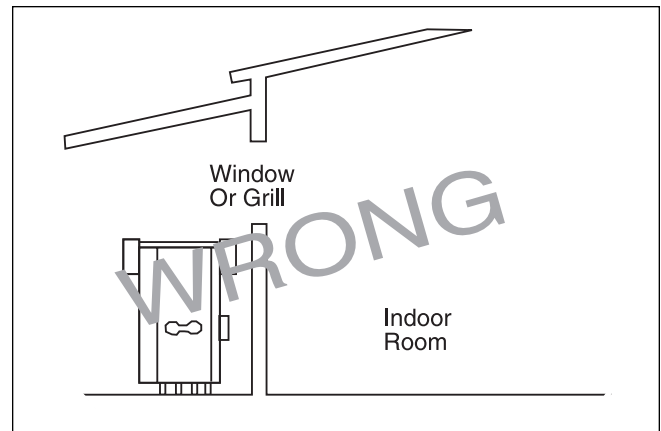

Figure 7 - Incorrect Outdoor Installation
- Never install the heater under any kind of roof overhang. Do not place the heater below or adjacent to any doors, windows, louvers, grills, etc., which connect in any way with an inhabited area of a building. This includes other structures such as garages or utility rooms (see Figure 7).